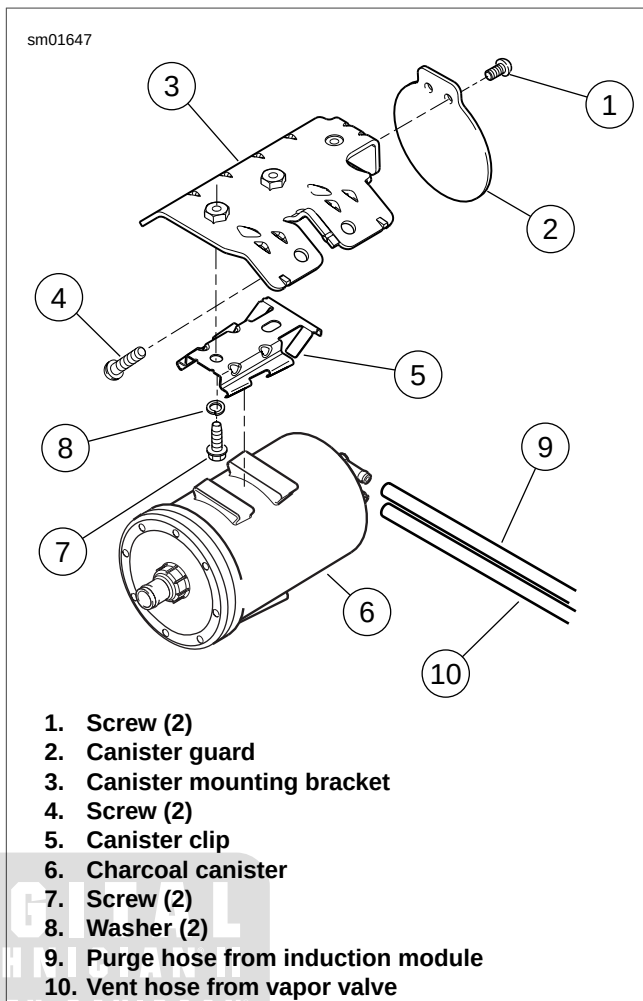
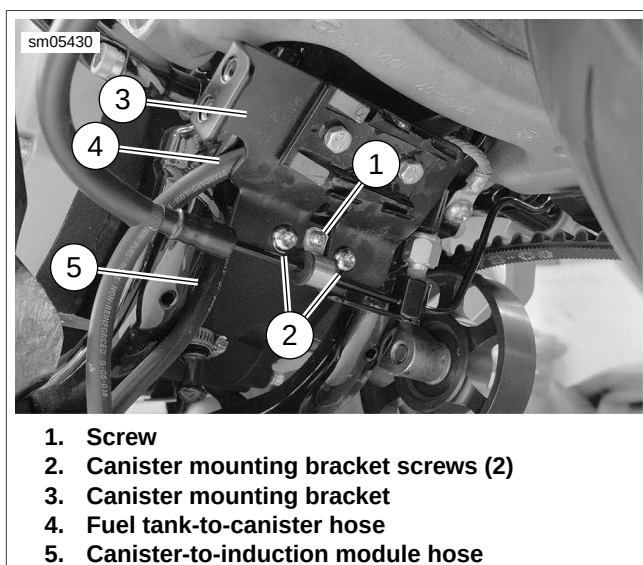
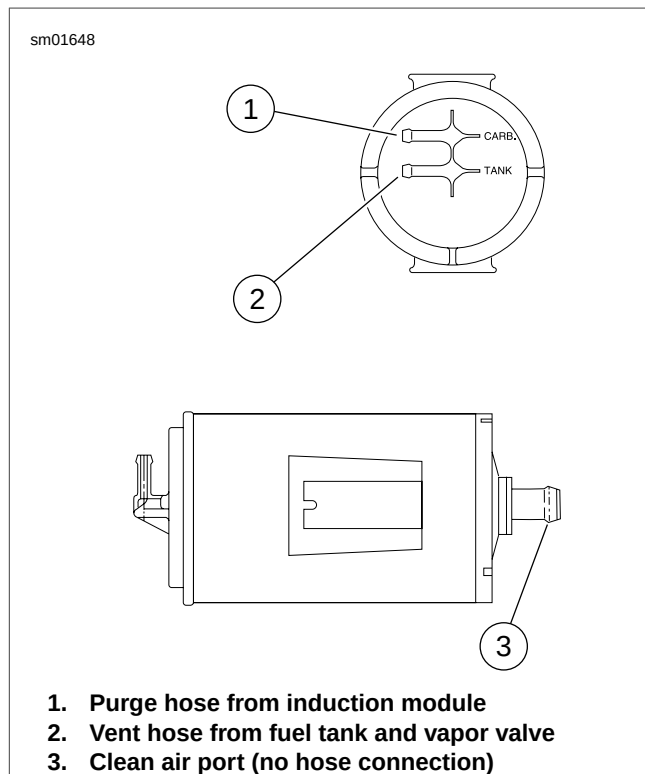

Figure 4-90. Charcoal Canister Mounting (Typical)
Figure 4-91. Charcoal Canister Mount: XR Models
Figure 4-92. Charcoal Canister Connections
1. See Figure 4-90. Remove two screws (1) and canister guard (2).
2. Mark the two hoses (9, 10) connected to charcoal canister (6). Disconnect hoses from canister.
3. Depress locking tabs at left end of canister clip (5). Slide canister towards left side of vehicle until it disengages from canister clip.
4. Remove two screws (7) and washers (8) to detach canister clip from canister mounting bracket (3).
- b. Remove two screws (4) to detach canister mounting bracket from rear master cylinder mounting bracket.
6. **XR Models:** See Figure 4-91. If canister mounting bracket requires repair/replacement, remove two screws (2) to detach canister mounting bracket from frame.
1. **XL Models:** See Figure 4-90. If canister mounting bracket (3) was removed, proceed as follows:
- a. Attach bracket (3) and rear brake line bracket (not visible) to rear master cylinder mounting bracket and frame with two screws (4). Tighten to 17-22 ft-lbs (23.1-29.9 Nm).
2. **XR Models:** See Figure 4-91. If canister mounting bracket (3) was removed, proceed as follows:
- a. Apply Loctite Threadlocker 243 (blue) to the threads of the mounting screws (2).
- b. Install bracket and tighten screws (2) to 17-22 ft-lbs (23.1-29.9 Nm).
3. See Figure 4-90. Attach canister clip (5) to canister mounting bracket with two screws (7) and two washers (8). Tighten to 36-60 **in-lbs** (4.1-6.8 Nm).
4. Starting at left side of canister clip, slide charcoal canister (6) to the right until tabs on canister clip lock canister in place. Bend tabs outward somewhat if canister is not held securely.
5. See Figure 4-92. Connect two hoses (1, 2), marked during disassembly, to their proper fittings on canister.
6. See Figure 4-90. Install canister guard (2) using two screws (1). Tighten to 35-45 **in-lbs** (4.0-5.1 Nm).